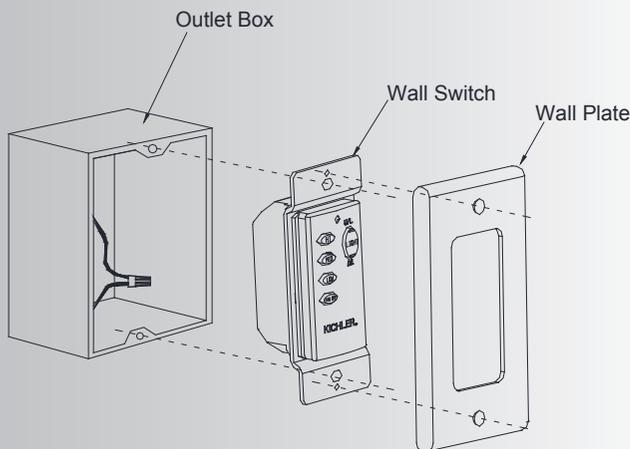

Fig. 27
**Step 2.** Use the screws provided to secure the wall transmitter to the outlet box. (Fig. 27)